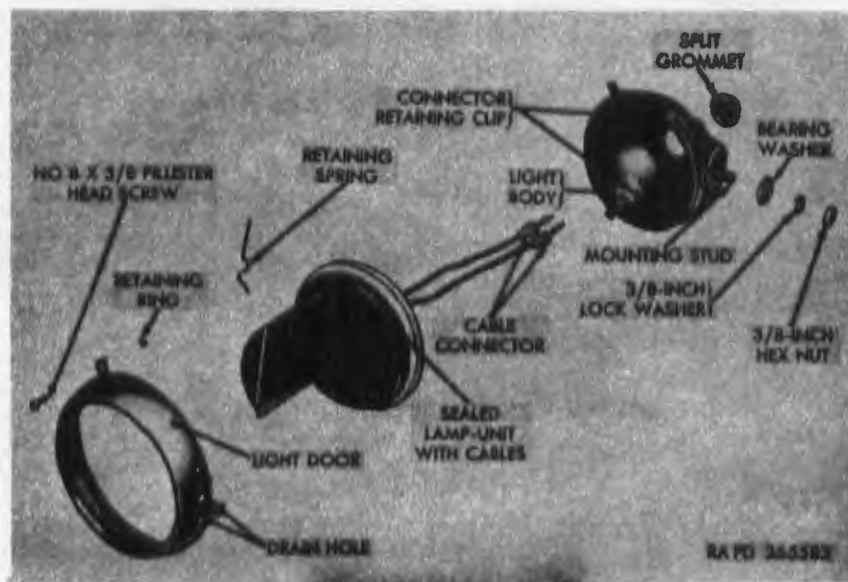

Figure 153. Blackout driving lights—exploded view.
- (1) *Removal.* Check that master relay switch (E, fig. 15) is in the OFF position. Unscrew three fillister-head screws with retaining rings which secure light door (fig. 153) and sealed lamp-unit with cables in light body and lift out door and lamp-unit. Remove cable connectors from retainer clips, separate the connectors, and remove door and lamp-unit from body. Pry out three retaining springs holding lamp-unit in door and remove lamp-unit.
- (2) *Installation.* Position sealed lamp-unit with cables (fig. 153) in light door with shield on lamp unit opposite the drain holes in the door and secure with three retaining springs. Connect lamp-unit cable connectors to connectors in light body making sure that circuit number markers on cables correspond (fig. 86). Install cable connectors in retainer clips. Position light door with lamp-unit on light body and secure with three No. 8 x $\frac{3}{8}$ fillister-head screws with retaining rings.
b. Replacement of Blackout Driving Light (fig. 153).
- (1) **Removal.** Remove sealed lamp-unit and light door (a(1) above). Press out split grommet with cables and connectors from opening in rear of light body. Remove hex nut, lockwasher, and bearing washer from mounting stud on light body and remove light body from mounting bracket.
- (2) **Installation.** If a new blackout driving light is to be installed, remove sealed lamp-unit and light door (a(1) above) and remove hex nut, lockwasher, and bearing washer from mounting stud of light body. Position light body on mounting bracket and install bearing washer, $\frac{3}{8}$ -inch lockwasher, and $\frac{3}{8}$ -inch hex nut. Aline light body vertically and horizontally with service and blackout headlights before tightening hex nut securely. Insert cables and cable connectors through opening in rear of light body. Install split grommet in opening in light body. Install sealed lamp-unit and light door (a(2) above) and test (a(3) above).